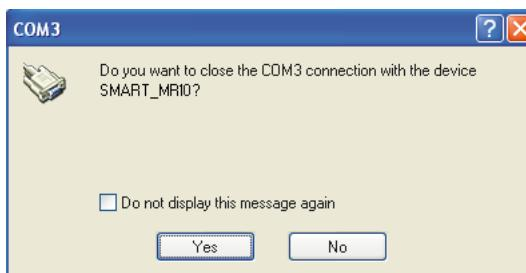

Figure 35: COM3 Disconnect?
4. Right-click the *COM3* icon then select the *Disconnect Serial COM Port* option. A *COM3* dialog box appears, as shown in *Figure 35*, requesting confirmation that you want to disconnect.